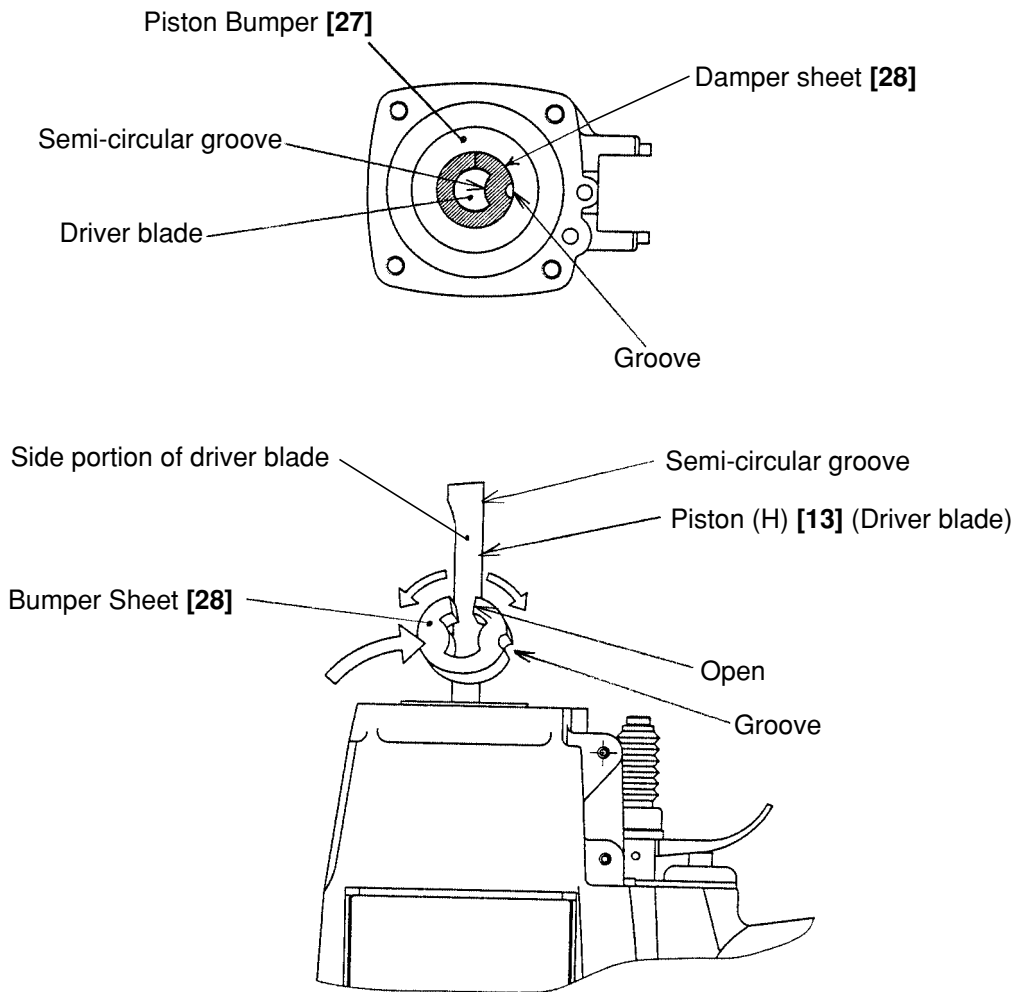

Fig. 11
- When reassembling Piston (H) [13], ensure that the semi-circular grooved side is facing toward the Magazine side. (See Fig. 11.)
- When mounting the Bumper Sheet [28] to Piston (H) [13], open the cut of the Bumper Sheet [28] and put the driver blade in the Bumper Sheet [28] from its thin side facing the groove on the circumference of the Bumper Sheet [28] to the semi-circular grooved side at the tip of Piston (H) [13] surely.
- Reassemble Gasket (A) [29] so that its air vents are properly aligned with the matching air vents on the Nose [32] and Body Ass'y [24].
- (I) First, assemble the Nose [32] and Pushing Lever [38]. Then, fasten Body Ass'y [24] and the Nose [32] with the four Nylock Hex. Socket Hd. Bolts M5 x 16 [34], and tighten them to rated torque.
- (II) Fasten the Pushing Lever [38] with the Roll Pin D3 x 30 [47].